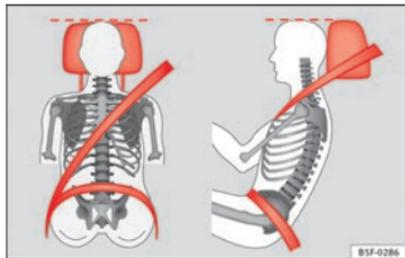

Fig. 85 Front and side view: head restraints and seat belts correctly adjusted.
- Adjust the head restraint so that its upper edge is at the same level as the top of your head, or at least at eye level → Fig. 85.